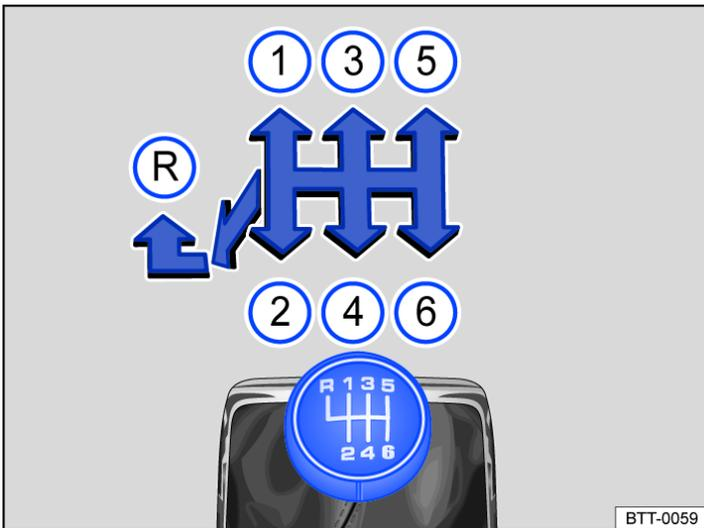

Fig. 1 Gear shift pattern of a 6-speed manual gearbox.
The positions of the individual gears are displayed on the gear lever → Fig. 1.
- Push the gear lever completely to the left and then forwards into the reverse gear position → Fig. 1 ^(R).